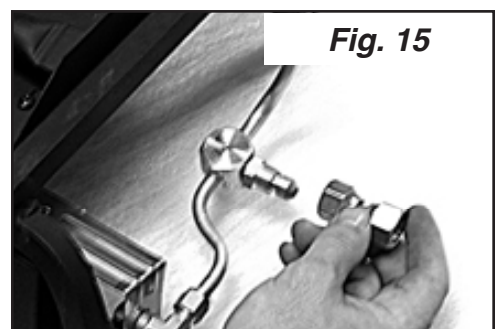

Fig. 15
7. Attach 3/8" swivel to the Main Burner Assembly. (See Fig. 15)